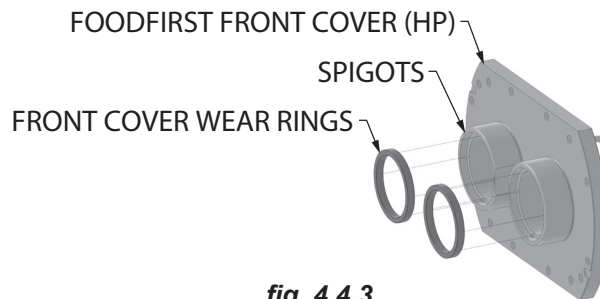

fig. 4.4.3
##### 4.4.1.4.2 FoodFirst Front Cover Wear Ring Removal- High Pressure (HP) Cover (ref. fig. 4.4.3)